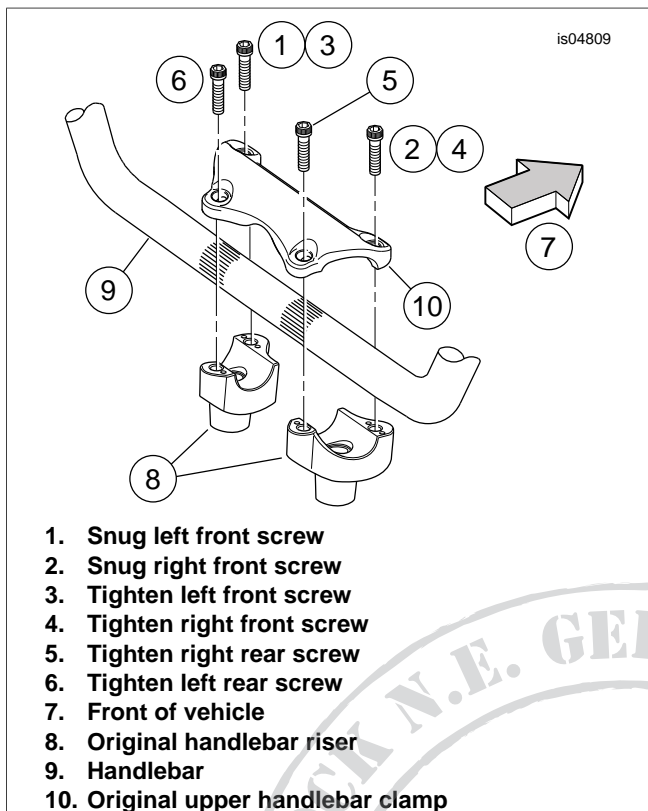

Figure 3. Handlebar Clamp Screw Tightening Sequence
3. See Figure 3. Snug, but do not fully-tighten, only the front two upper clamp screws in the following sequence:
- a. First, snug the left front screw (1).
- b. Then, snug the right front screw (2).
11. See Figure 3. Tighten the upper handlebar clamp screws as follows:
- a. Tighten the left side front screw (1) until the left side of the handlebar clamp makes contact with the front of the left side handlebar riser.
- b. Tighten the right side front screw (2) until the right side of the handlebar clamp makes contact with the front of the right side handlebar riser.
- c. Tighten the left side front screw (3) to 16-20 ft-lbs (21.7-27.1 Nm).
- d. Tighten the right side front screw (4) to 16-20 ft-lbs (21.7-27.1 Nm).
- e. Tighten the right side rear screw (5) to 16-20 ft-lbs (21.7-27.1 Nm).
- f. Tighten the left side rear screw (6) to 16-20 ft-lbs (21.7-27.1 Nm).